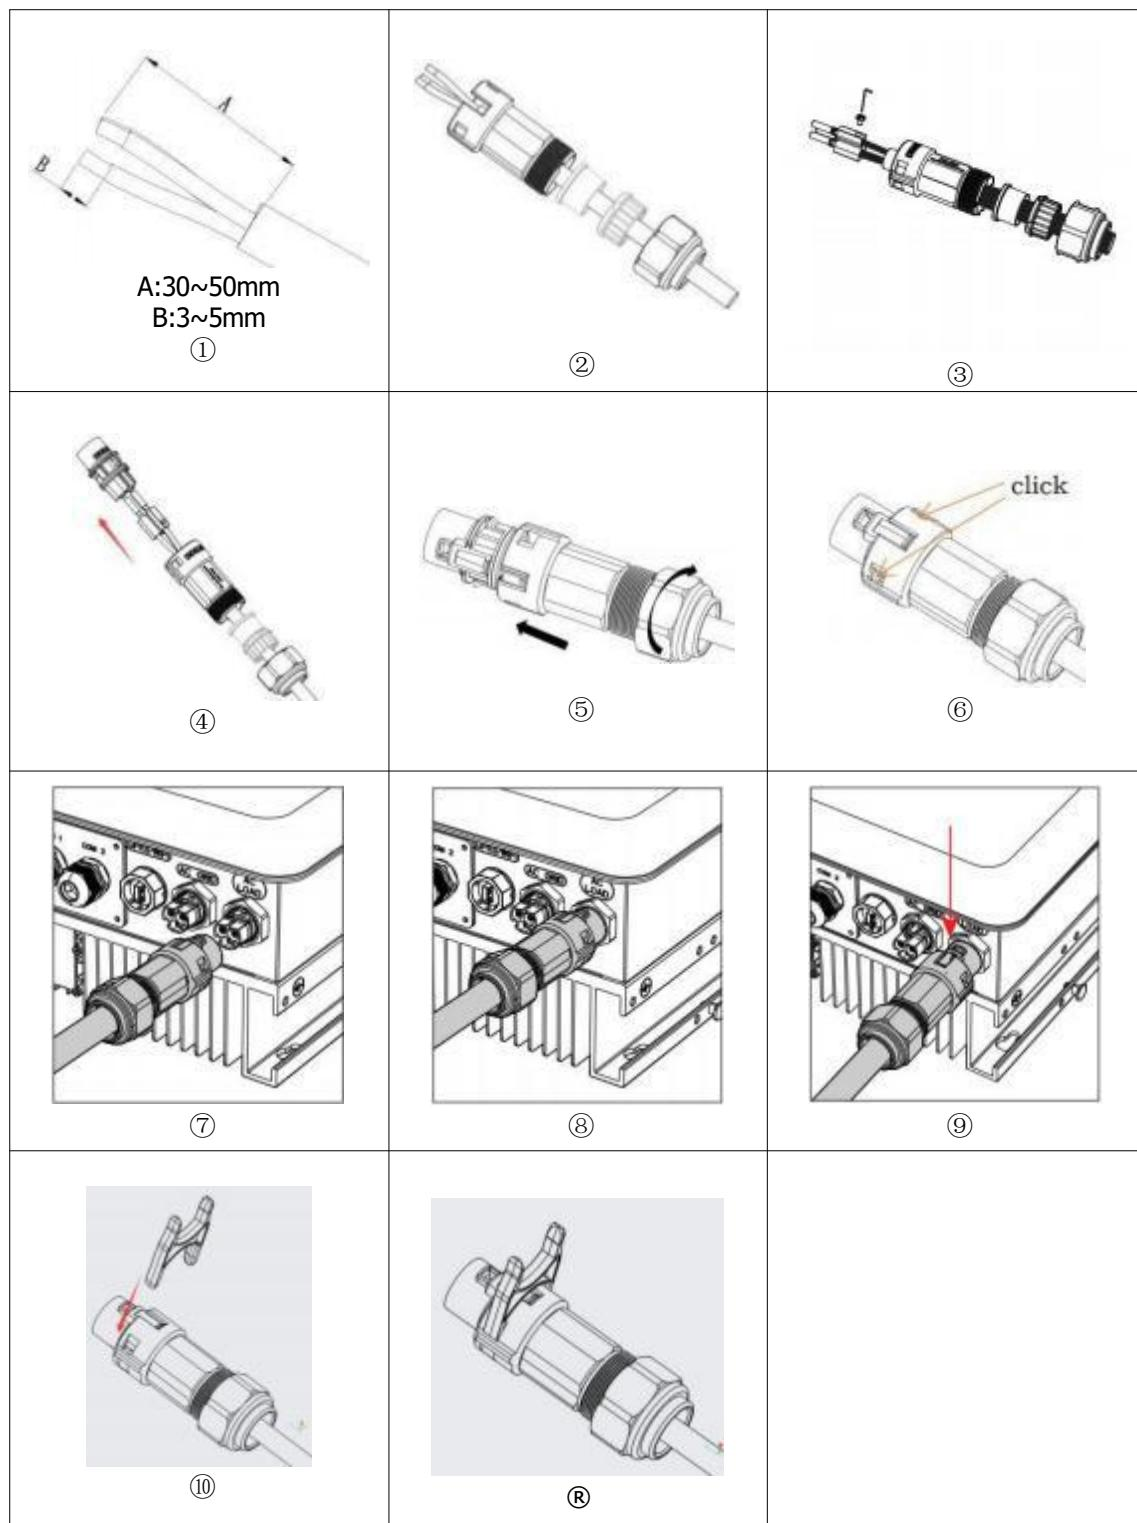

Figure 12: Connection of load cable
- Step 1: Select the appropriate type and specification of cable according to Table 4-3, and then strip the cable; the specific stripping length shall refer to Figure 12 ①; A: 30~50mm B: 3~5mm
- Step 2: Disassemble the AC terminal as shown in Figure 12 ②, and pass the stripped cable through the waterproof locking nut;
- Step 3: Lock the cable into the locking hole on the terminal as indicated, and fastened with a hexagon socket screwdriver, as shown in Figure 12 ③④;
- Step 4: Insert the output terminal, and when the “click” sound is heard, tighten the waterproof nut clockwise, as shown in Figure 12 ⑤⑥, to ensure that the cable is securely connected;
- If it is required to remove the terminal from the equipment, it can be pulled out by a tool inserted in the direction as indicated by the arrow. The same tool can be used to remove the terminal, as shown in Figure 12 ⑩⑪.